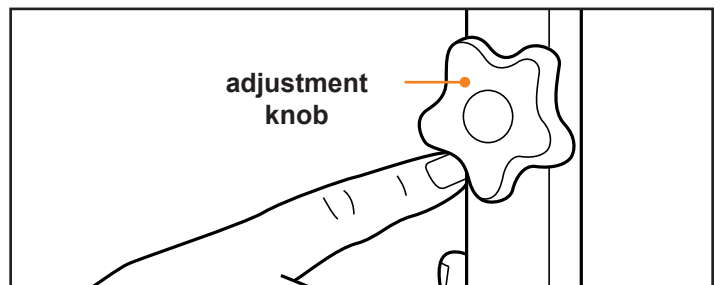
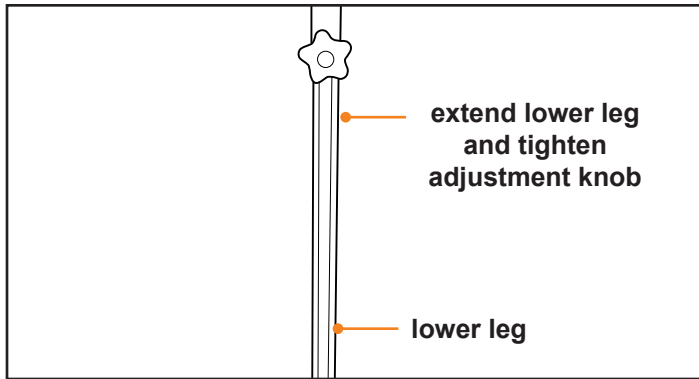

Fig.9
Fig.10
10. Loosen the adjustment knob of the Ground Support assembly (Fig.9) and extend the lower leg of the assembly to the ground (Fig.10) to support the roll tube. Re-tighten the adjustment knob.